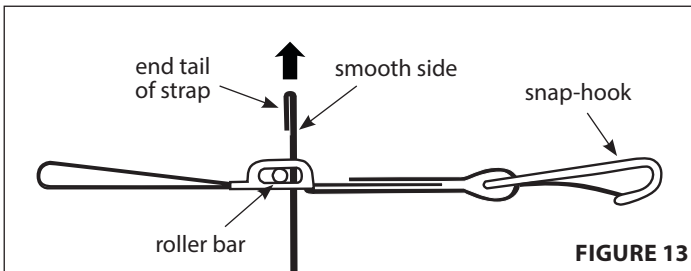

FIGURE 13
2. Feed end tail of strap up through the bottom of the float buckle on the snap-hook side of the roller bar. **SEE FIGURE 13**